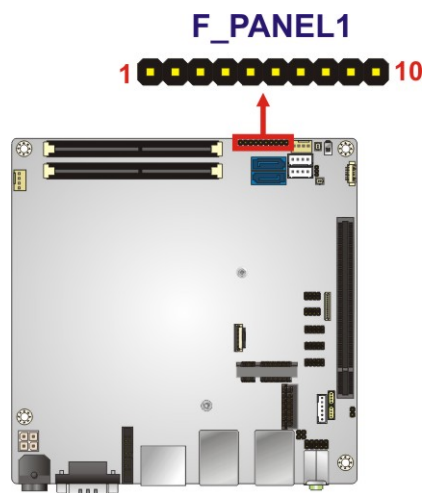

Figure 3-12: Front Panel Connector Location
- CN Location:** See **Figure 3-12**